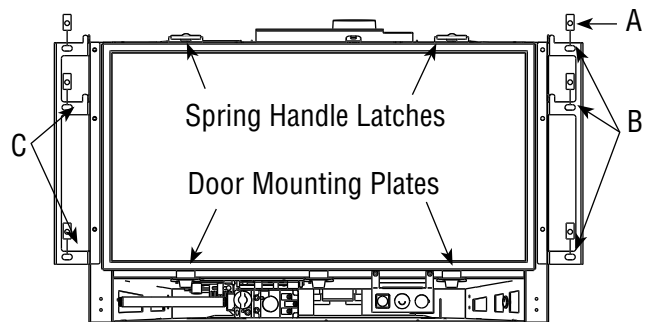

Figure 12
1. Remove the speed nuts (A in Figure 12) from the parts bag and install (with the flat surface forward) on the six holes in the surround brackets - three on each side of the insert (B in Figure 12). A flat bladed screwdriver may help in installing the nuts.
The faces come with hooked brackets. To install the face, hang the hooked brackets on the surround brackets (C in Figure 12).